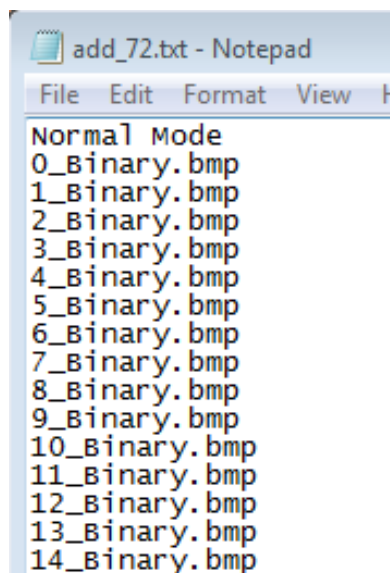
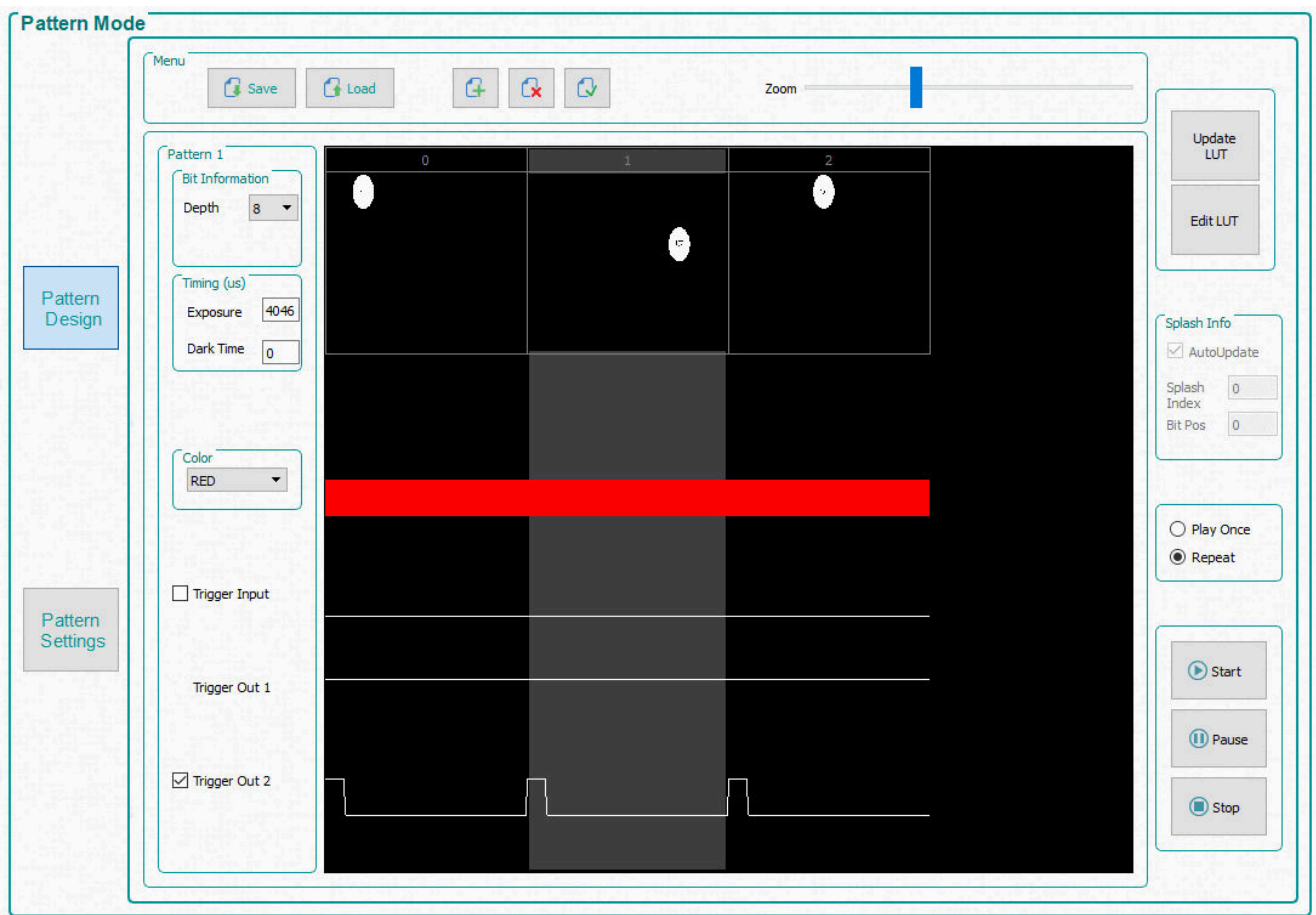

Figure 3-8. Add From List
Figure 3-9. Pattern Sequence
3. Click the *Add Pattern* button in the *Menu* bar and browse for any three bitmap images from the sample of images directory. Be sure to select them from the correct image folder for the EVM that is being used. All three images can be selected at the same time within the open file dialog window. When selecting multiple files at once, the operating system does not load the images in the same order as selected. To add images in a predefined order, use the *Load* button. This option loads the images from a text file that contains the file names of each bitmap in the desired order. Alternatively, you can add the images one at a time using the *Add Pattern* button to verify the order. Figure 3-8 shows an example of loading images from a file. The bitmap images must be located in the same directory as the text file. See Figure 3-9 after the images have been added.